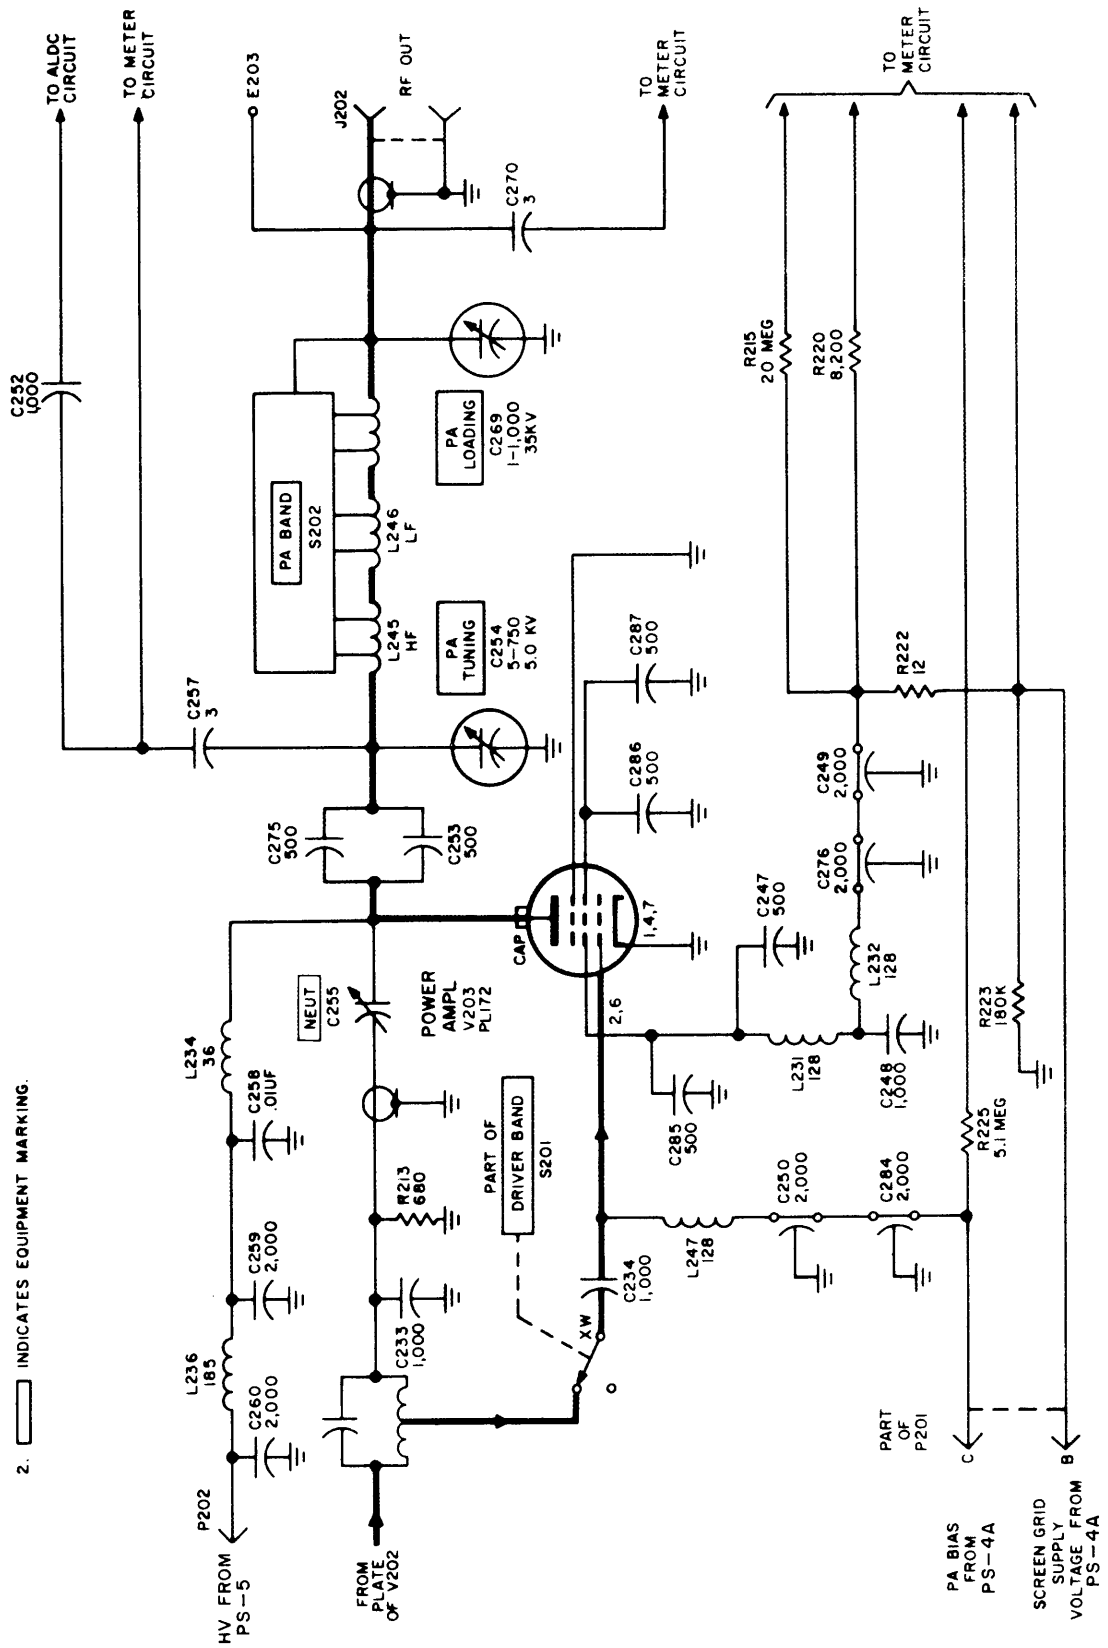

Figure 4-4. Simplified Schematic Diagram, V203 Power Amplifier, RFD-1A
(4) V203 FEEDBACK. An r-f feedback from the plate of V203 is applied to V202 cathode through capacitors C273 and C288. This feedback decreases third order distortion by another -10 db.
d. PA STAGE, V203 AND ASSOCIATED CIRCUITS (See figure 4-4).
(1) AMPLIFICATION. V202 tuned output is amplified at V203 (Class AB) power amplifier and proceeds, via PA TUNING, BAND, and LOADING control circuits to J202 r-f output jack and auxiliary output terminal E203.
(3) NEUTRALIZATION. Neutralizing voltage is developed from V203 plate voltage routed through neutralizing capacitor C255, developing voltage across C233 and R213 and applied to V203 grid via tap on tuned circuit inductance.
(4) METER SIGNALS. Samples representing V203 control grid and screen grid d-c voltages are routed to the meter circuit via L247 and L231 respectively. R222 is a meter shunt resistor for measuring V203 screen grid d-c current as described in paragraph 4-2e. A sample representing V203 r-f plate voltage is routed to the meter circuit via C270 capacitor.
(5) ALDC. The r-f output of V203 is rectified and applied as a d-c signal to ALDC switch S209 via capacitors C257 and C252, diode CR204 and inductor L240. The r-f voltage is rectified by CR204, with a negative d-c voltage developed across C265 and filtered by L240 and C263. Referring to figure 8-1, ALDC d-c bias voltage is received from pin d of P201 and developed across resistors R233, R227, ALDC control R201, and resistor R226. A portion of this bias voltage is tapped off ALDC control R201 and applied through inductors L239 and L238 to the junction of CR204 and capacitor C252. Referring to figure 4-4, the negative voltage appearing across C265 is then a result of two sources, one from V203 output and the other from ALDC d-c bias. When S209 is in INT position, the combined negative d-c is sent to V201 control grid. When V203 output voltage extends beyond a certain amplitude, V201 negative grid bias, increases, decreasing V201 output voltage. When S209 is in EXT position, the combined negative d-c is sent to pin b of P201 plug from which point it may be cabled to the external exciter, if preferred.